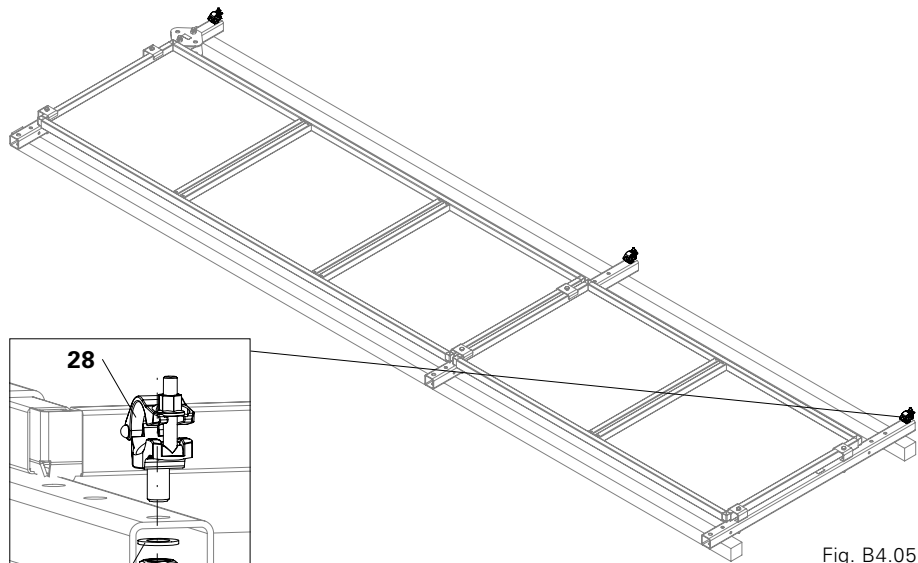

Fig. B4.05
1. Attach one Screw-On Coupling AK 48 (28) to each Guardrail Post RCS-MP (22) using Washer 7089 200 HV, A20 (66) and Nut ISO 4032 M20-8 (67). (Fig. B4.05 + B4.05a)